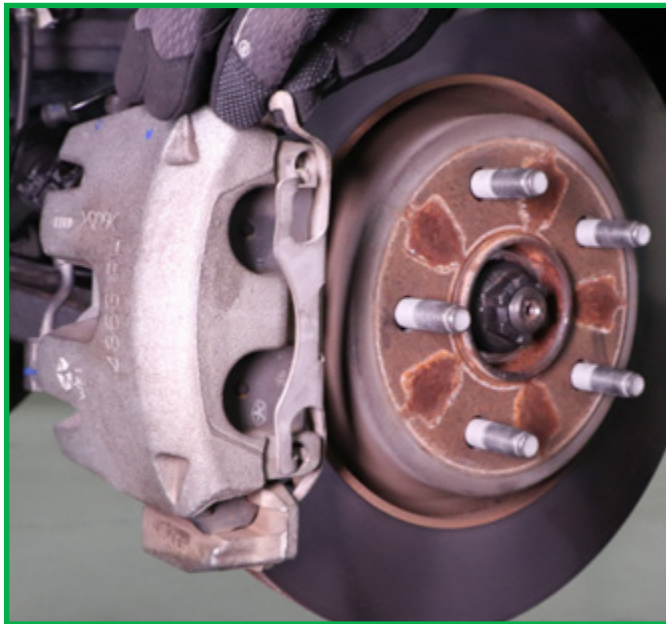

FIGURE 8
8. Remove brake caliper retention clip. (Figure 8)